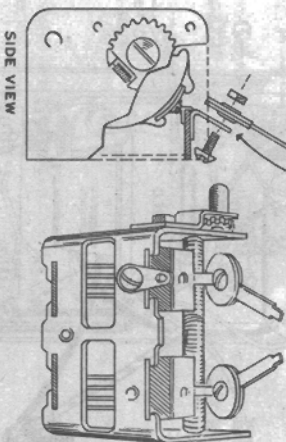

Fig. 4
- (7) Bend the remaining two stator lugs as shown in Figure 4, side view.
- (8) Mount a disc condenser on each of these lugs with a 3-48 screw and nut. Note the angle of the disc condenser leads.
- (9) Mount the tuning condenser on the bottom plate with three short screws. Use a #6 lockwasher between the screw head and bottom plate of these three screws.
- (10) The 3-prong coil socket supplied with the GD-1B is designed for use with the accessory 341-A Coil Kit.)